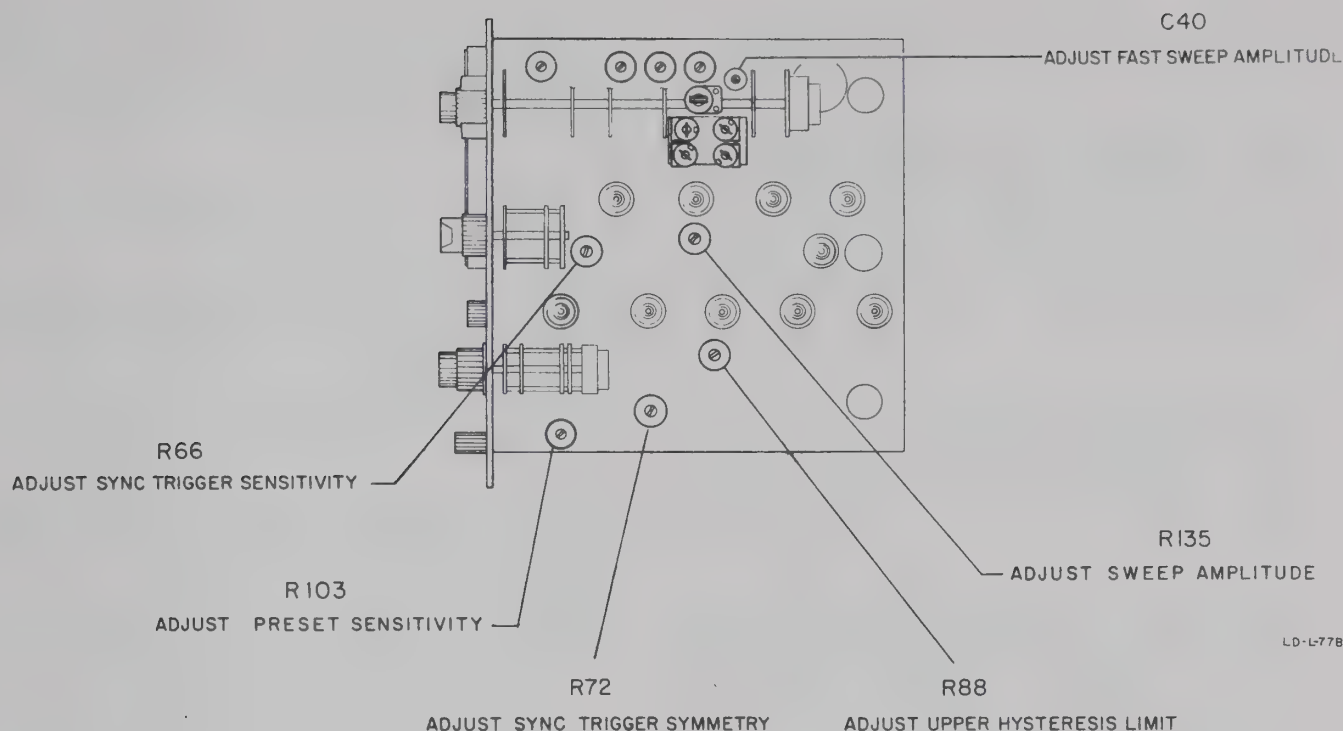

Figure 4-7. Sweep Generator Adjustments
The Sweep Generator and Sync Circuits are located on the right side of the instrument on a swing out chassis. The chassis is held in place by a captive fastener located in the center of the board near the panel. The following adjustment procedures apply to sweep generator marked with  $\Phi$  Stock No. 150A-65L. Figure 4-7 locates the Sweep Generator adjustments.
8) Refer to Figures 4-7 and 4-8. Adjust potentiometer R66 and R72 for pips vertically spaced exactly 1 volt apart on the displayed sine wave. In addition, the pips must be exactly 0.5 volt above and below the center of the wave. The upper pip must be on the positive slope portion of the sine wave and the lower on the negative slope.